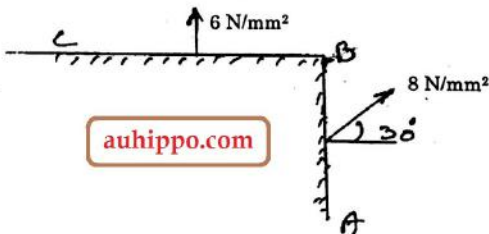

Fig. Q. 16(a)
16. (a) The intensity of resultant stress on a plane AB (Fig.Q.16(a)) at a point in a materials under stress is 8 N/mm^2 and it is inclined at 30° to the normal to that plane. The normal component of stress on another plane BC at right angles to plane AB is 6 N/mm^2 . Determine the following :
- (iii) The maximum shear stresses. (15)